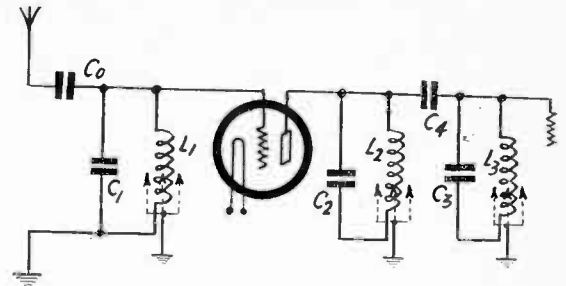

FIG. 3
The ideal case of fixed-bias operation with a fixed plate-voltage supply gives results as shown by the curves marked (I) in Fig. 3. The curves (II) show the performance with fixed bias but with a plate-supply source having an equivalent internal resistance of 562 ohms. This represents the condition for the circuit of Fig. 2 when a 5Z3 with suitable transformer is used. The performance with an 83 type is intermediate between the values of curves I and II of Fig. 3.
Performance of a 2A3 amplifier for self-bias operation (self-bias resistance of 780 ohms) and an assumed internal resistance of the plate-voltage supply of 562 ohms is shown as Curve IV in Fig. 3. A comparison with Curve I, which represents the ideal case of fixed supply voltages, shows the necessity of using a high plate load, as previously stated, in order to obtain high power output and low distortion. Increasing the internal resistance of the plate-voltage supply to the somewhat higher values often used commercially will not materially change results from the values of Curve IV.
The circuit diagram in Fig. 3 shows the equivalent voltage-supply circuit for the plate and grid-voltage supply. The plate and bias voltages on the power tube at zero-input signal are 300 and minus 60 volts, respectively. (For a-c filament
The operating characteristics are shown in Fig. 3, with conditions stated and curves given below.